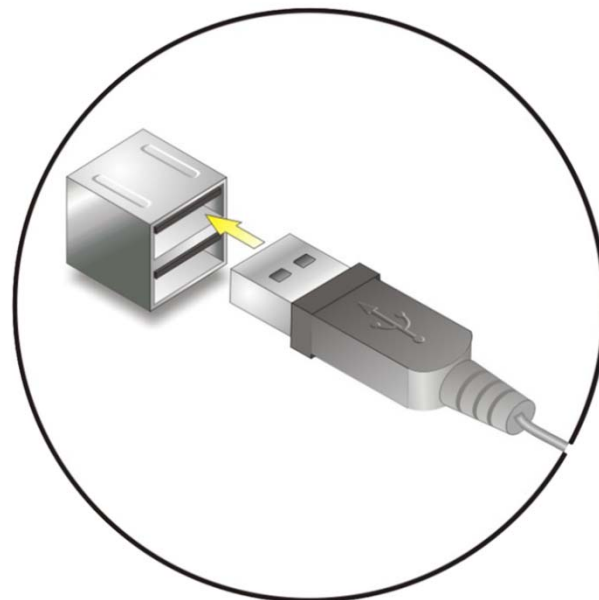

Figure 6 – USB Device Connection
Step 2: Align the connectors. Align the USB device connector with one of the connectors on the bottom panel. See Figure 6.